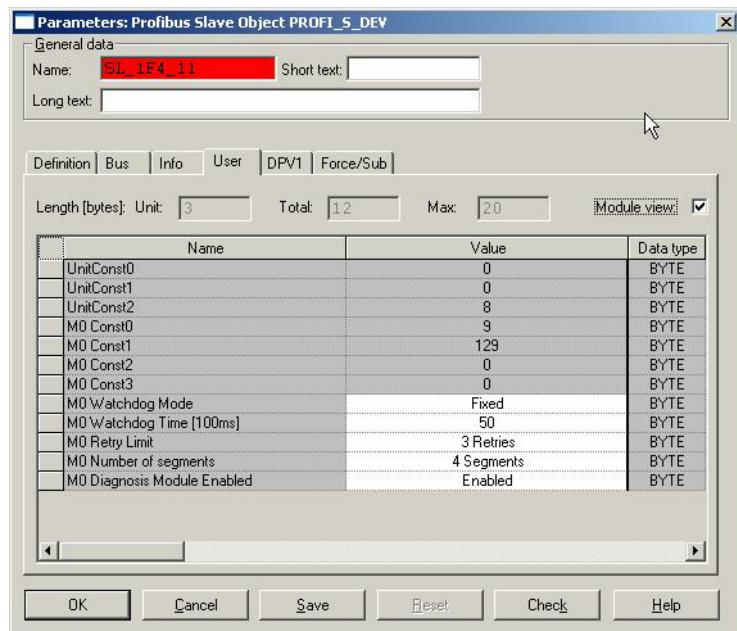

Figure 15. Freelance 800F - Gateway Configuration
- Set the following parameters¹ for the PROFIBUS Power Hub gateway according to Table 4 as shown in Figure 15: